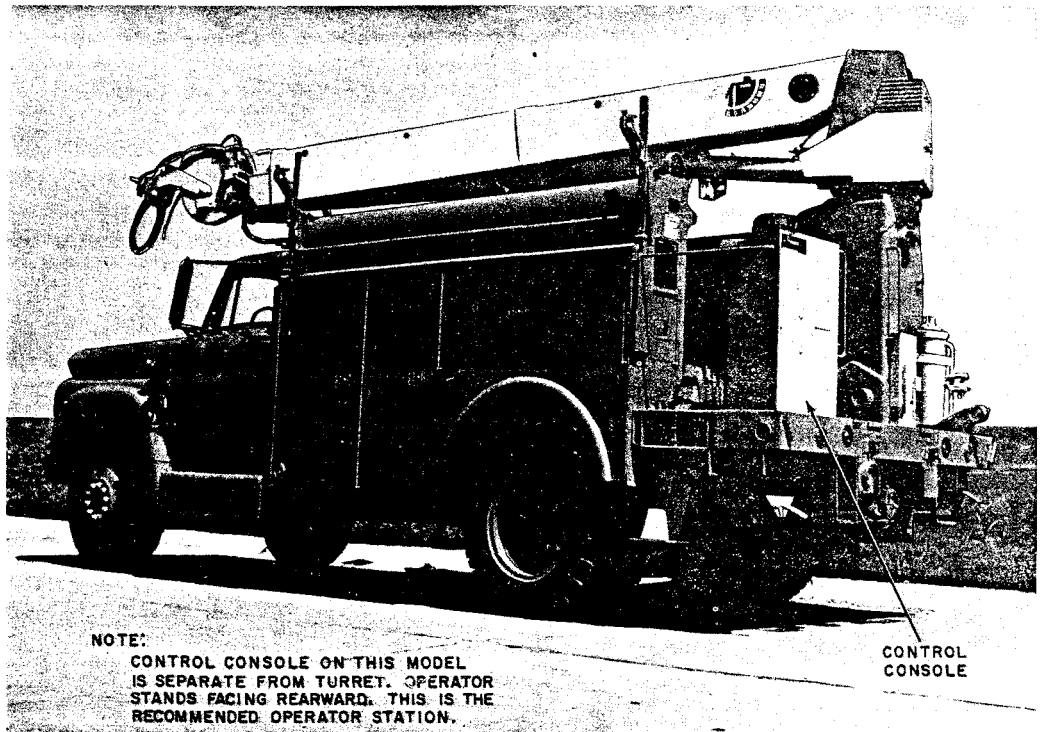

Fig. 1—Typical Rear Corner Mounted Derrick
2.02 Figure 1 illustrates a typical standard derrick mounted at the right rear corner of the